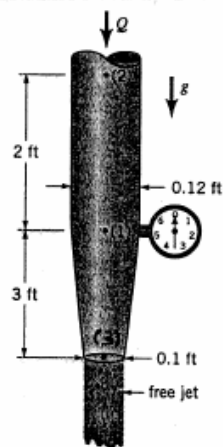

FIGURE P3.25
3.25 Water flows steadily downward through the pipe shown in Fig. P3.25. Viscous effects are negligible, and the pressure gage indicates the pressure is zero at point (1). Determine the flowrate and the pressure at point (2).